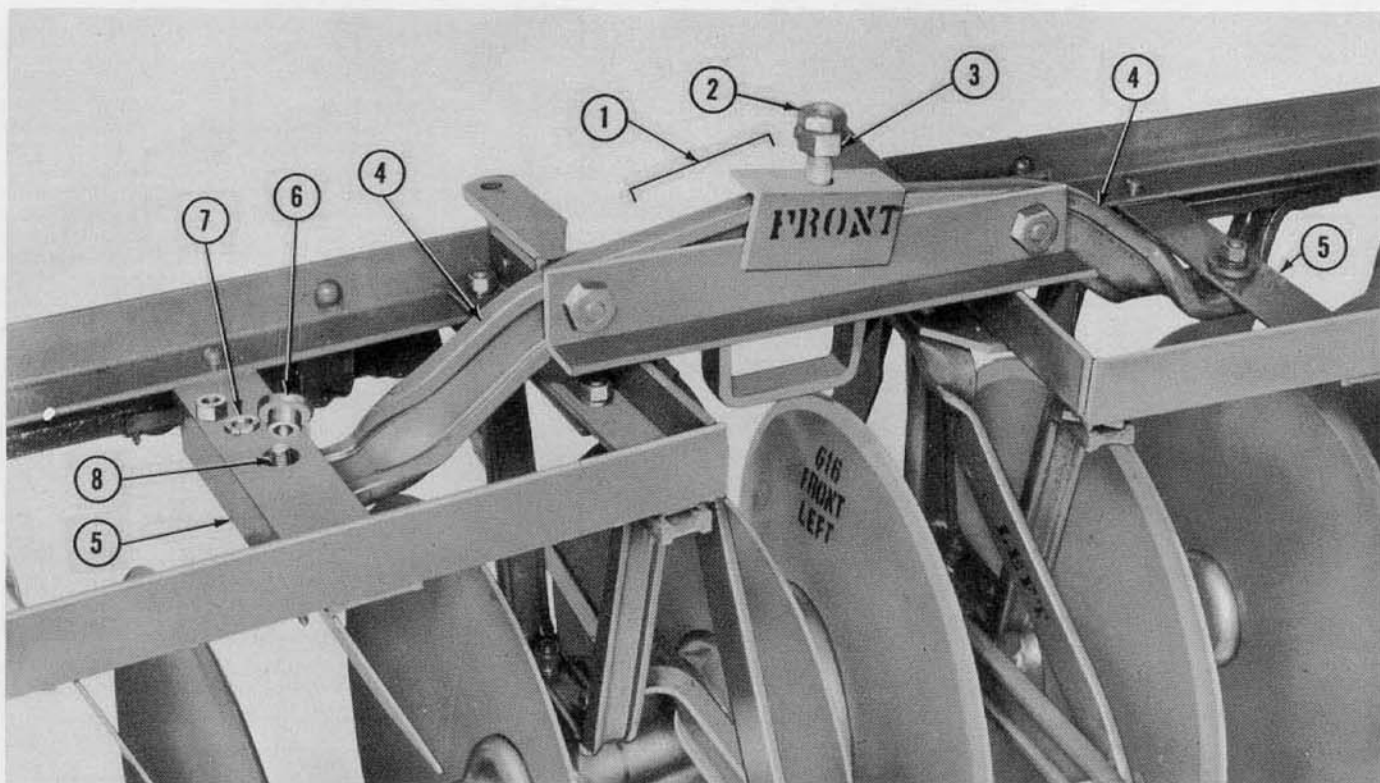

Figure 6
10. Mount front snubber assembly (1), Figure 6, to front gangs as follows:
- a. Loosen locking nut (2) and adjusting nut (3) on snubber assembly to give